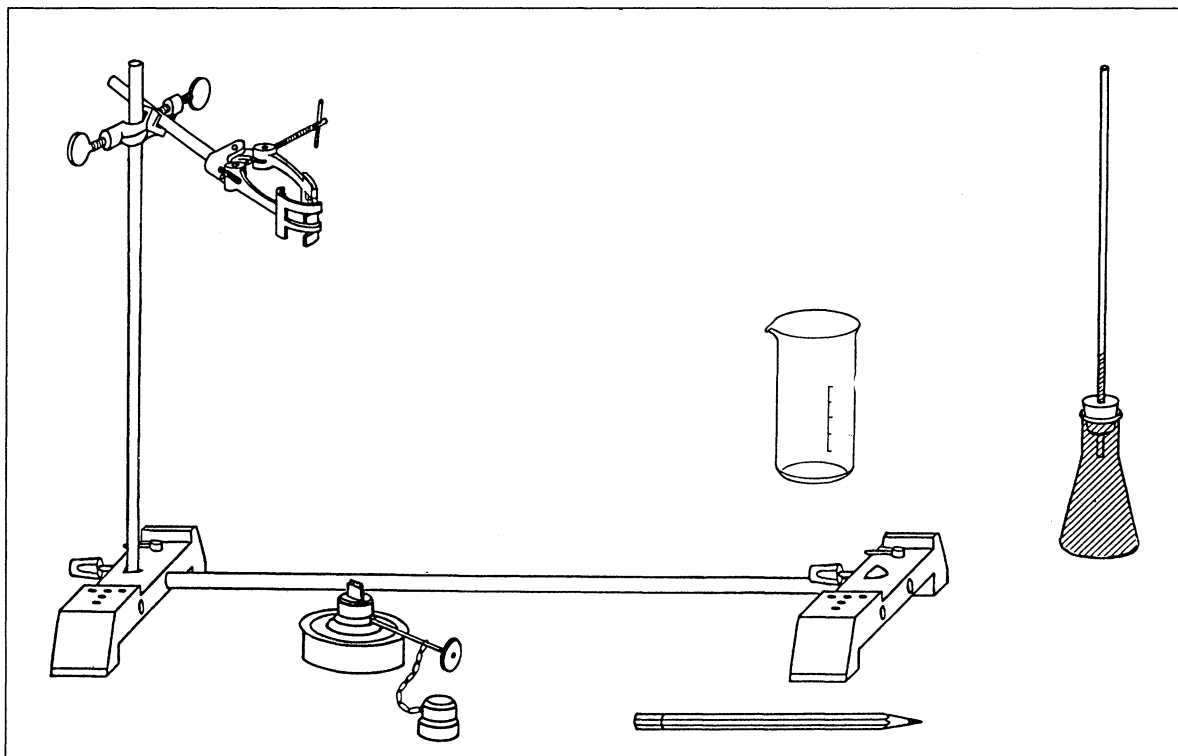

Fig. 1 Setup for heating water
1. Set up the stand as shown in fig. 1. Attach the double socket and apparatus clamp as shown.